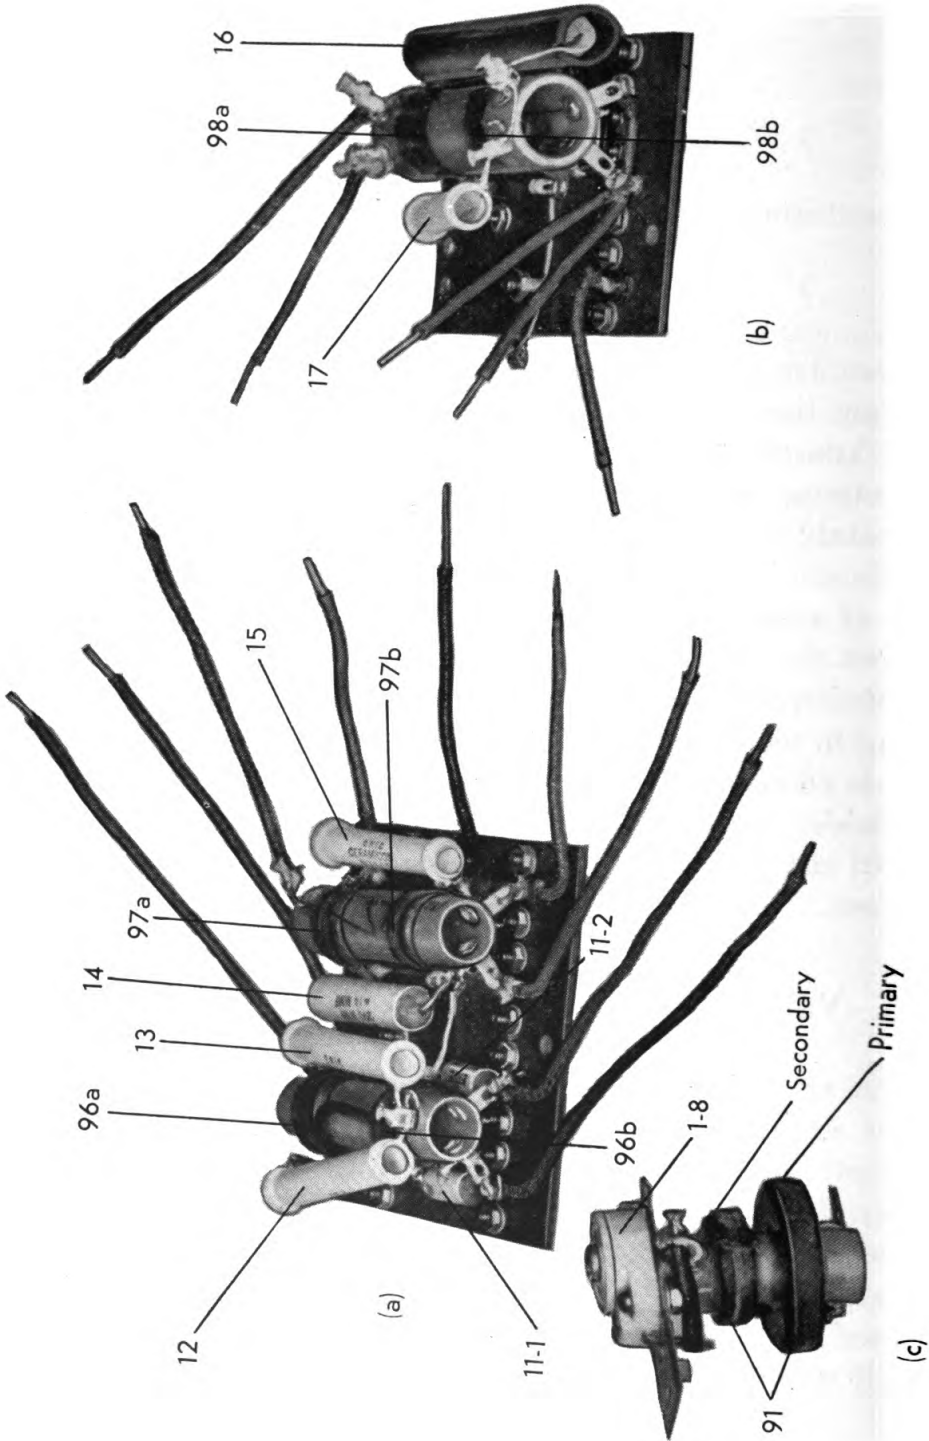

Figure 28. Radio Receiver BC-792-A, Oscillator Coil Sub-Assemblies, Typical R-F Coil Assembly
All the r-f transformers can be detached by means of the single fastening screw and by disconnecting the leads at the transformer terminals. A typical r-f transformer assembly is shown in figure 28(c). The terminals at the trimmer end of the transformer belong to the secondary circuit and those at the other end belong to the primary circuit.
(1) If one of the oscillator transformers of bands 1 to 4 has to be removed, this can be accomplished only by removing the entire sub-assembly on which these are mounted. This sub-assembly is shown in figure 28(a).
(2) The most convenient way to remove this sub-assembly is to unsolder the leads going to switch wafers K and L. A total of 8 leads on the latter wafers must be unsoldered. In addition, the black lead going to the solder lug on the five-trimmer plate must be unsoldered at the lug. The eight-trimmer plate assembly can then be removed by taking out three screws of which two are in the switch shield partition and one in the support bracket. When this sub-assembly has been removed, all the necessary soldered joints are accessible for removing any defective components.
(3) If band 5 or band 6 oscillator transformers must be removed, it is necessary in like fashion to remove the sub-assembly from the receiver. This sub-assembly is shown in figure 28(b). To accomplish this operation, the leads going to wafers K and L of the band switch should be unsoldered.
(4) Band 7-8 oscillator transformer is held to the switch partition by a single screw. It can be removed without disconnecting any leads other than those connecting to it.